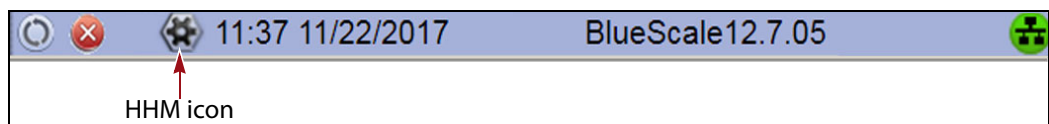

Figure 178 The HHM icon is located on the status bar.
3. Click the HHM icon on the status bar (see Figure 178 on page 333). The Hardware Health Monitoring screen displays.